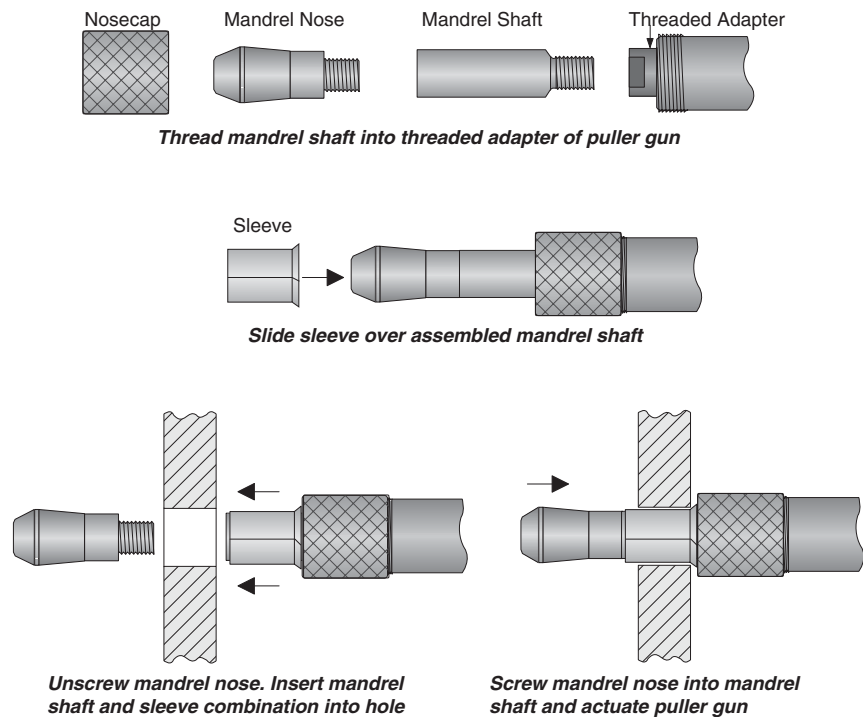

Figure 4-06 – Two Piece Mandrel
- 4.7.13 Many mandrels above 1" diameter are of two piece construction due to required mandrel geometry. Follow the instructions in figure 4-06 for using these mandrels.